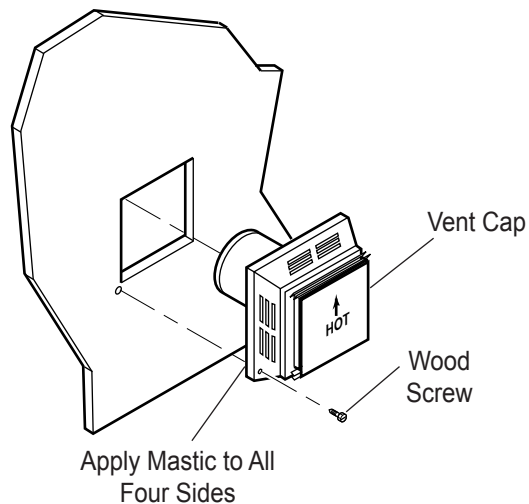
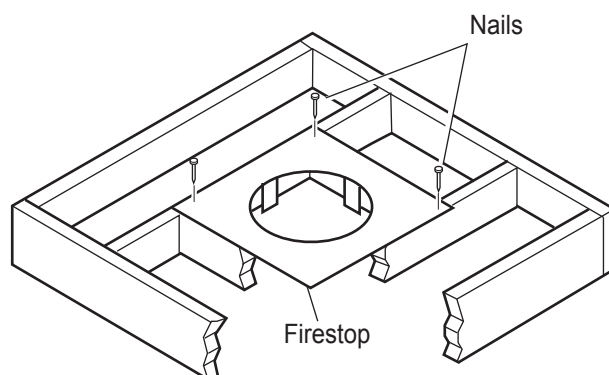
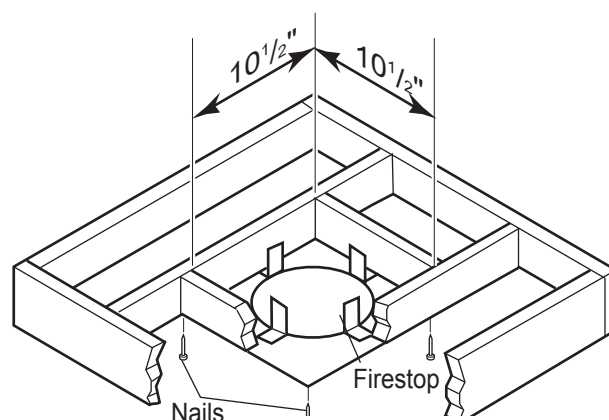

**Figure 12 - Vent Opening Requirements**
Figure 28- If area above is a room, install firestop above framed hole as shown
Figure 29 - If area above is not a room, install firestop below framed hole as shown
**Combustible Walls:** Cut a 10½"H x 10½" W (267mm x 267mm) hole through the exterior wall and frame as shown. See Figure 12.
3. Attach vent pipe assembly to the fireplace. Set fireplace in front of its permanent location to insure minimum clearances. Mark the wall for a 10½"H x 10½"W (241mm x 241mm) square hole (for noncombustible material such as masonry block or concrete, a 8½" [216mm] diameter hole is acceptable). See Figure 11. The center of the hole should line up with the center line of the horizontal rigid vent pipe end. Be sure to allow for minimum rise. Cut a 10-1/2"x10-1/2" (267mm X 267mm) square hole through combustible exterior wall (8½" [216mm] diameter hole if noncombustible). Frame as necessary. Allow ¼" minimum rise per foot. See Figure 12.
1. Establish vent hole through the wall. *See Figure 12, page 17.*
1. Cut a  $10\frac{1}{2}$ " (267mm) square hole in the ceiling using the locating hole as a center point. The opening should be framed to  $10\frac{1}{2}$ "x $10\frac{1}{2}$ " (267mm x 267mm) inside dimensions as shown in Figure 12, page 17 using framing lumber the same size as the ceiling joist. If the area above the ceiling is an insulated ceiling or a room, nail firestop from the top side. This prevents loose insulation from falling into the required clearance space. See Figure 28. Otherwise, install firestop below the framed hole. The firestop should be installed with no less than three nails per side. See Figure 29.
3. Cut a hole in the roof using the locating hole as a center point. (Cover any exposed open vent pipes before cutting hole in roof). The  $10\frac{1}{2}$ "x $10\frac{1}{2}$ " (267mm x 267mm) hole must be measured on the horizontal. Actual length may be larger depending on the pitch of the roof. There must be a 1" minimum clearance from the vent pipe to combustible materials. (Insulation should be considered a combustible material) Frame the opening as shown in Figure 12 on page 17.